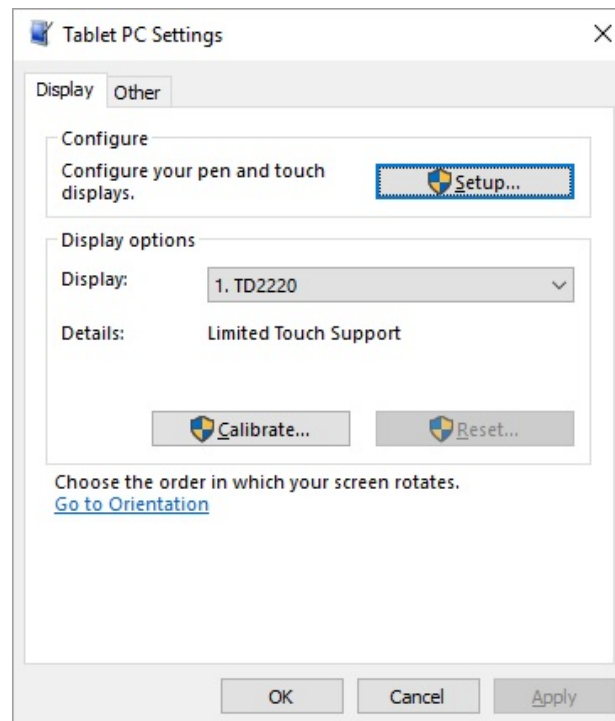

Figure 5-1: Select the Display
2. On the **Display** tab in the **Tablet PC Settings** window, confirm the monitor name to calibrate from the drop-down menu (see Figure 5-1).